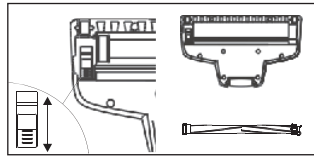

Fig. 3
- Move the lock (6) in the brush (8), insert the shaft (22), and lock it (6) - Fig. 3.
- Press the lock button (6) and remove the brush (8) from the body.
- Push the shaft lock and slide it out - Fig. 3.
- Clean the brush (8) with the addition of some dishwashing liquid, using a soft, damp cloth.
- NOTE. – Do not immerse the brush (8) in water.**
- After cleaning, insert the shaft into the brush and lock it in place - Fig. 3.